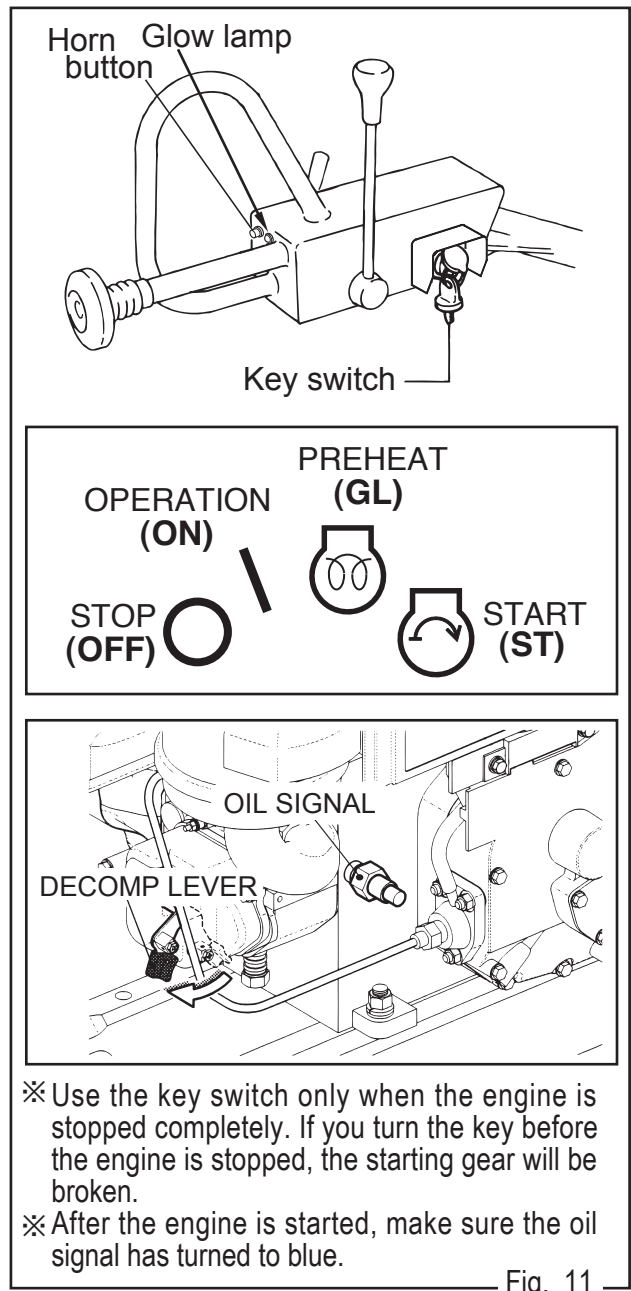

Fig. 11
- a. Insert the key into the key switch and turn the key to "ON" (Operation) position. Make sure that a buzzer goes off when the key is turned to ON.(Fig.11)
- b. Stop the key at "GL" (Preheat) position to preheat for 5 seconds. (With the key at "GL" position, the glow lamp next to the horn button lights up for five sec., then it will go out.)(Fig.11)
- c. After preheating, turn the key further to the right to "ST" (Start) position. Starter will run to start the engine. Immediately after the engine is started, take your hand off the key.(Fig.11)